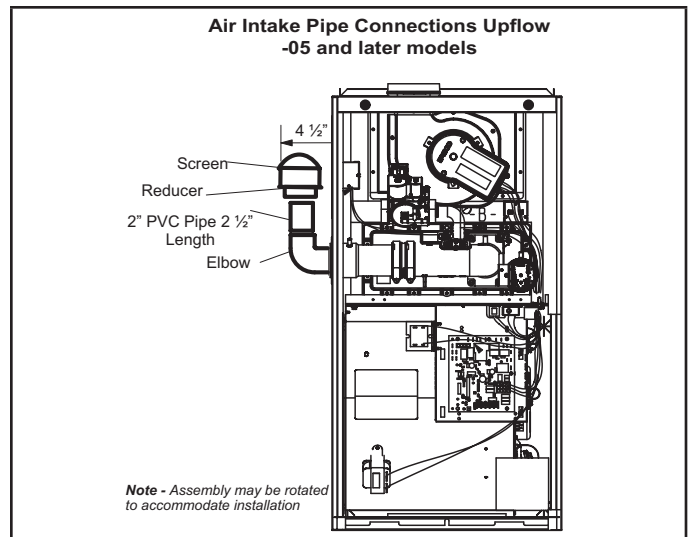

FIGURE 26
- 2 - Remove the air intake assembly from outside the cabinet. The assembly is not secured with screws or glue and will remove with ease. See FIGURE 26.